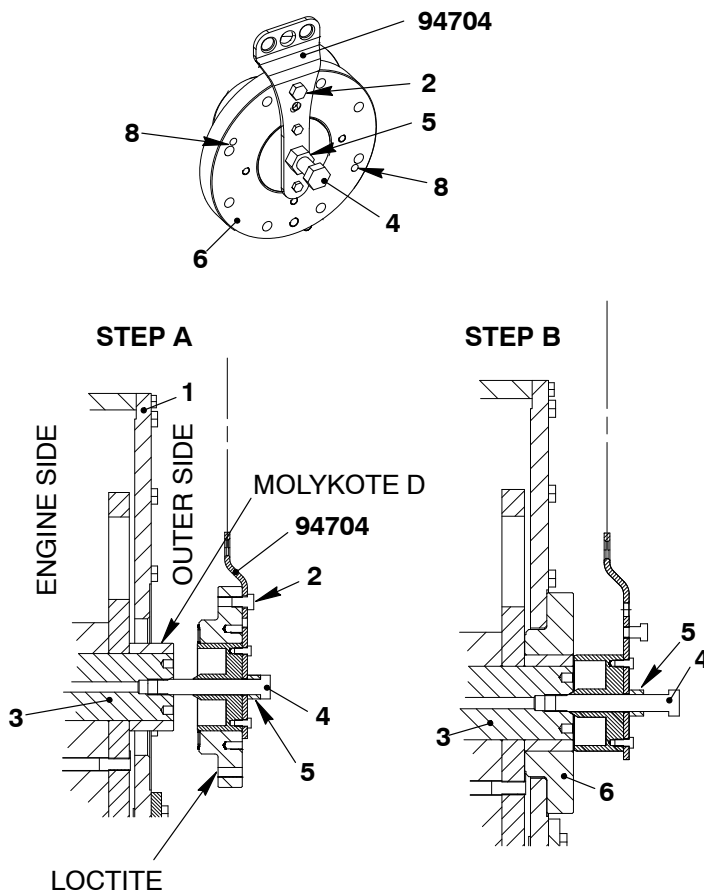

Fig. 9
- 1) Make sure that the bearing (6, Fig. 9) is clean, dry and in good condition. Apply Molykote D to the surface of the bearing.